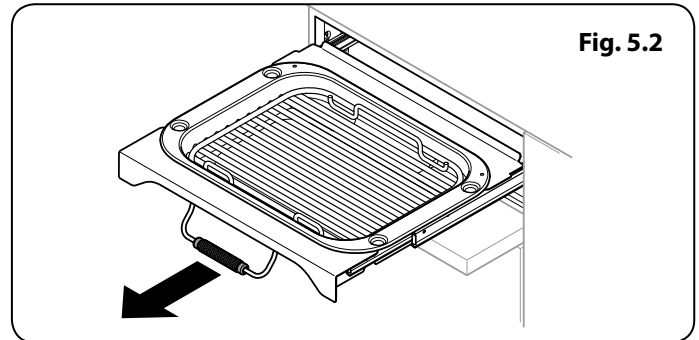
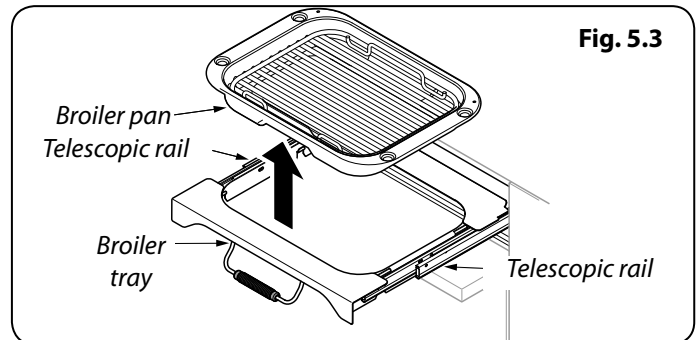

Fig. 5.2
Fig. 5.3
1. To remove the broiler pan, pull the tray assembly forwards (**Fig. 5.2**) and then lift the broiler pan clear of the broiler tray assembly (**Fig. 5.3**).